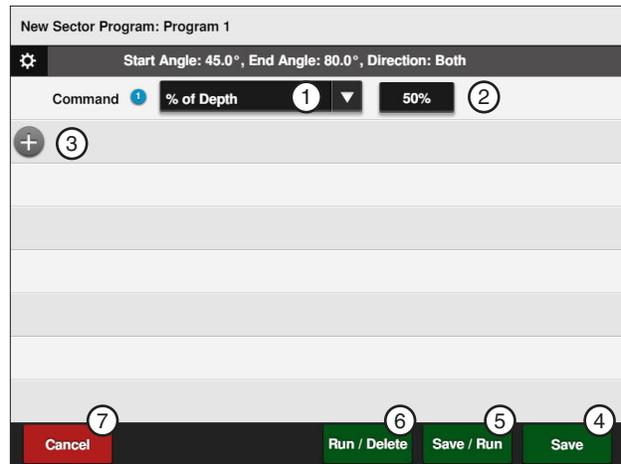

Figure 150-1 1. % of Depth Command 5. Save / Run
- a) Select the **Choose Command** drop-down menu and choose **% of Depth**. Refer to Figure 150-1.
12. Finish the program by selecting one of the following. Refer to Figure 150-1.